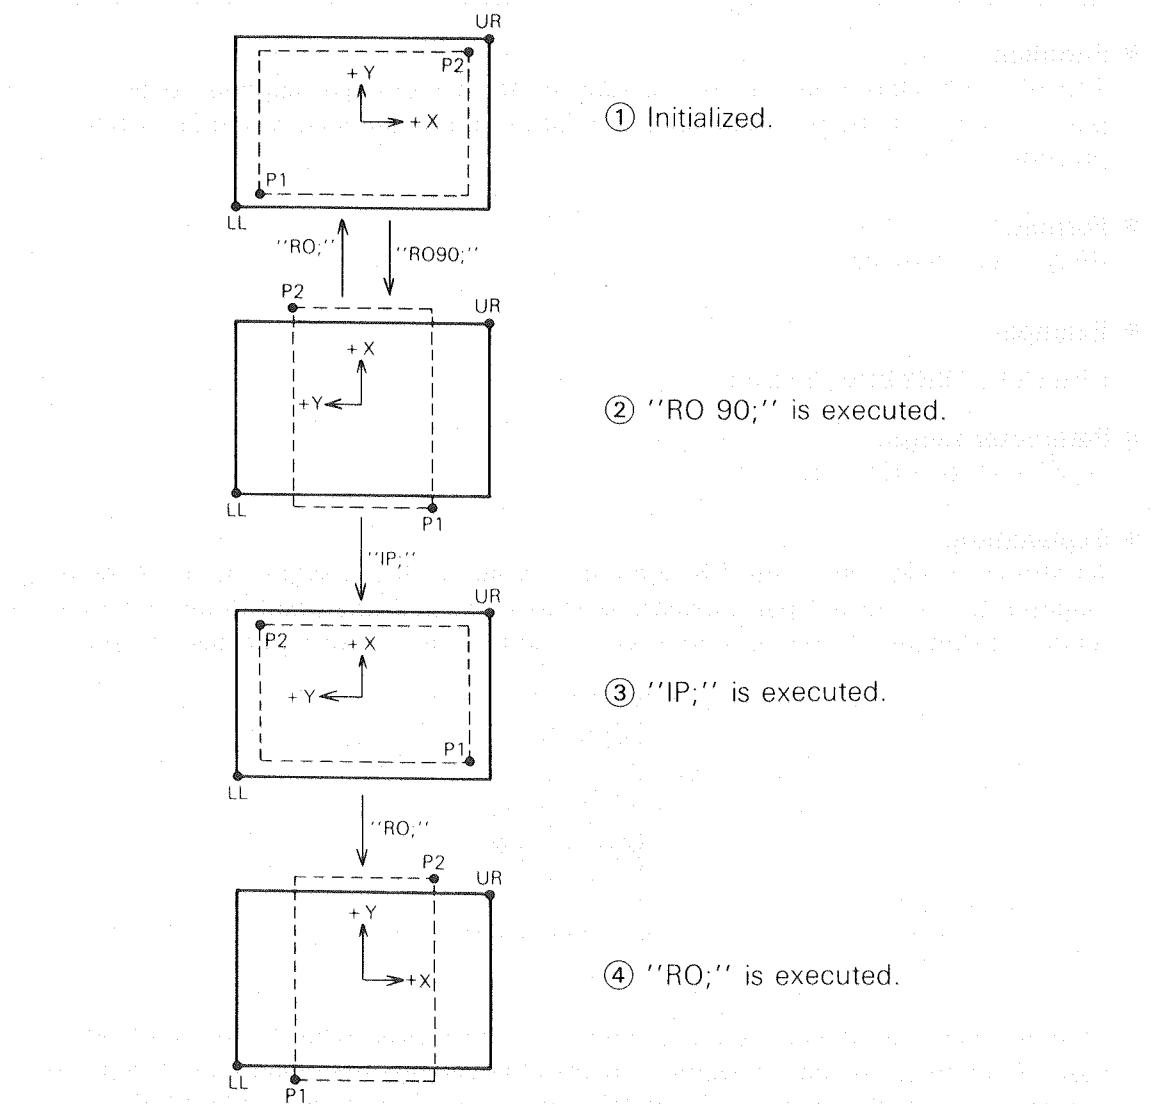

Fig. RO-1
Any RO command without parameter is the same as the parameter is 0. 0 and 90 are the only parameters you can use. If you key in 90, both X-axis and Y-axis rotate 90° each as shown in Fig. RO-1.
The RO command only rotates coordinate axes. The positions of the scaling points P1 and P2 vary whenever the IP command is executed. In Fig. RO-1, if the IP command without parameter is executed in state (2), P1 and P2 come in state (3). From this state (3), if the RO command without parameter is executed, P1 and P2 come in state (4). From the states (2), (3) and (4), P1 and P2 get back to initialize mode (1), but do not get back to it by the DF command.